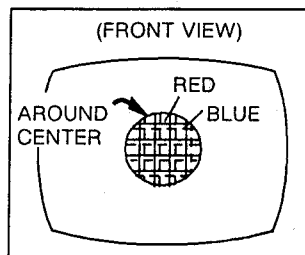

Fig. B-5
3. Rotate the front pair of tabs (four pole convergence magnet) as a unit to minimize the separation of the red and blue lines around the center of the screen. To adjust the convergence of red and blue, vary the angle between the tabs (Fig. B-5)